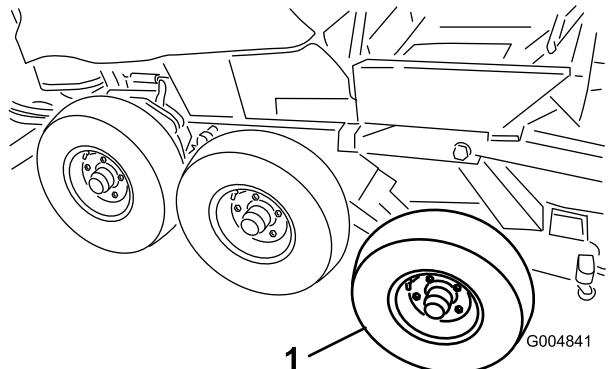

Figure 53
17. Remove the front and center tires from the winter assembly (Figure 53).